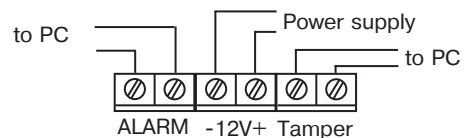

Figure 3
- Connect the wires in accordance with Figure 3.